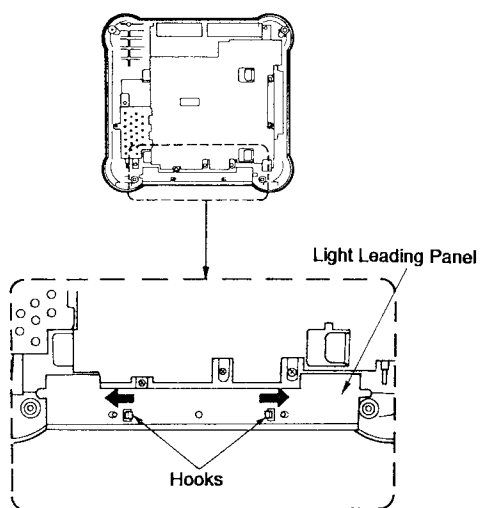

Figure 8
- (2) Gently pull out the light leading panel from the bottom cabinet while pushing two hooks as shown in Figure 8.